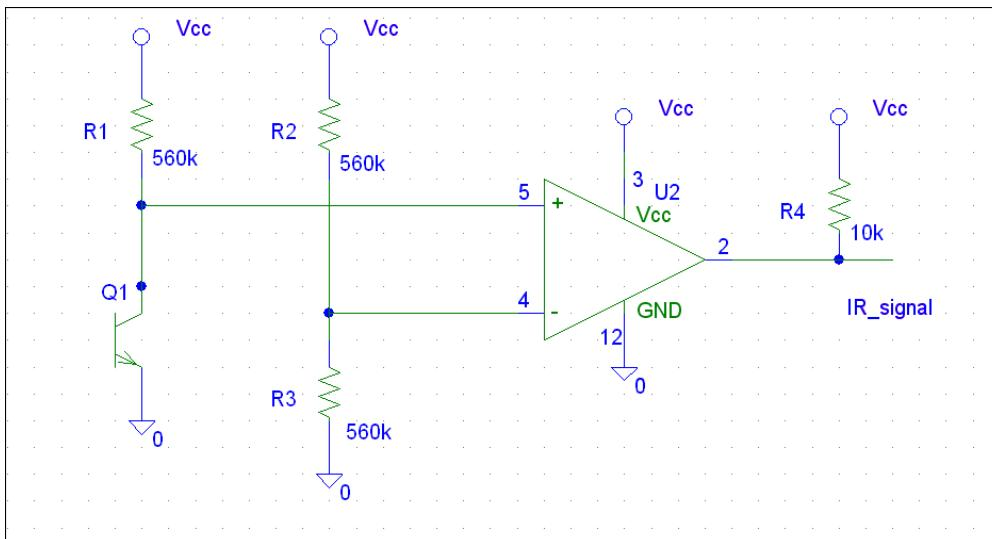

Figure 4: IR Receiver Circuit
- (a) Build the circuit shown in Figure 4. Use the power supply on your workbench (as shown in Figure 5), to provide a voltage source of  $V_{cc} = 3.3V$  to your circuit. The comparator pin-out diagram is provided for you in Figure 1a, and you may use any of the four available comparators. Note the  $10k \Omega$  pull up resistor connected to the output terminal. This resistor is necessary because the output of the comparator is an open-collector output.
- (e) Since our peripheral has an input pin (i.e. *IR\_signal* from Figure 4), we must add it to the port list of our 'ir\_demod\_v1\_SOI\_AXI.v' file. Do this now using *IR\_signal* as the port name. Use the auto generated comments as a guide for where to insert your changes.